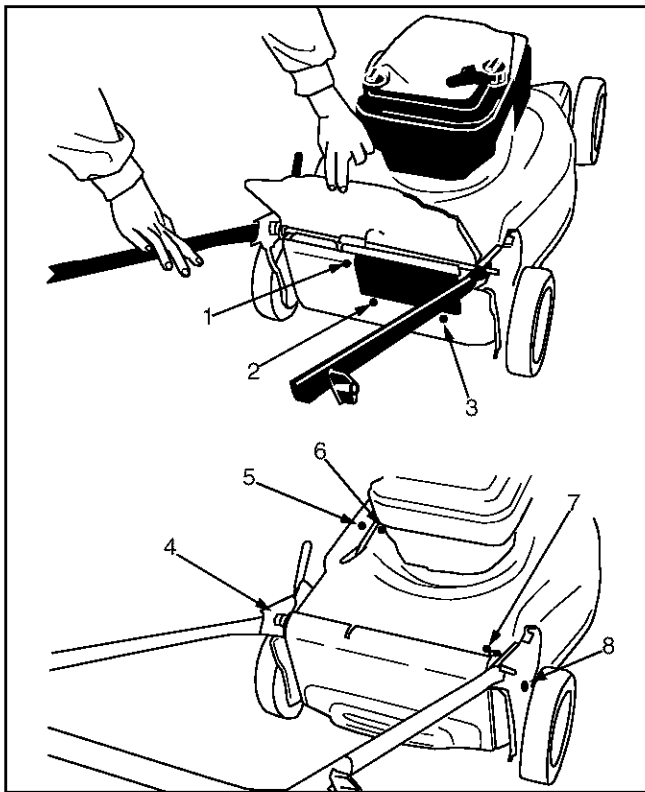

Figure 19
- Replace the eight phillips head screws that hold the large baffle in place. Refer to Figure 19.